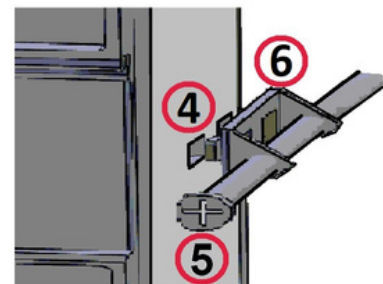

Figure 7: Entry Point of the Metal Apparatus
- The metal securing bracket, shown as number (6) in Figure 7, is attached to the dual metal slot on the side surfaces of the device, marked as number (4), so that the clips fit into the slots. These two components have been installed. The metal apparatus is securely fitted.